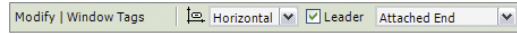

FIGURE 11.30 Removing the leader from the Window tag
- Highlight the tag, and in the Options Bar deselect the Leader check box that is shown checked (Figure 11.30). Doing so lets you drag the tag down—leader free—and place it in the crop region.